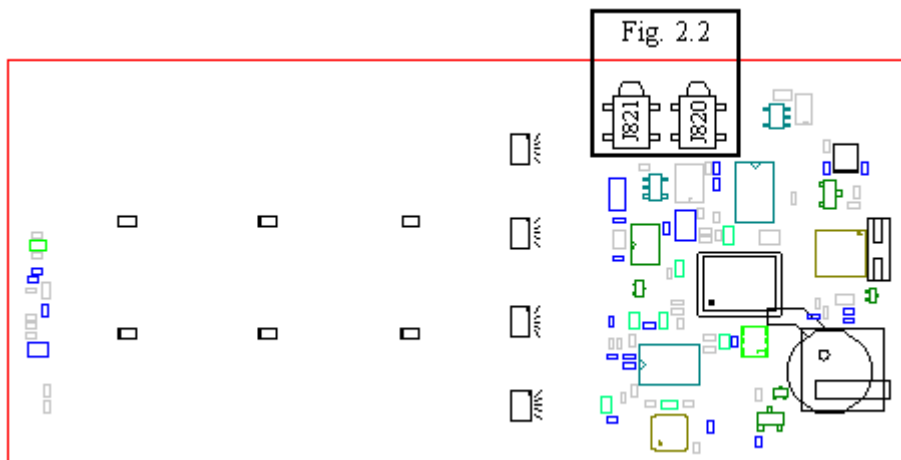
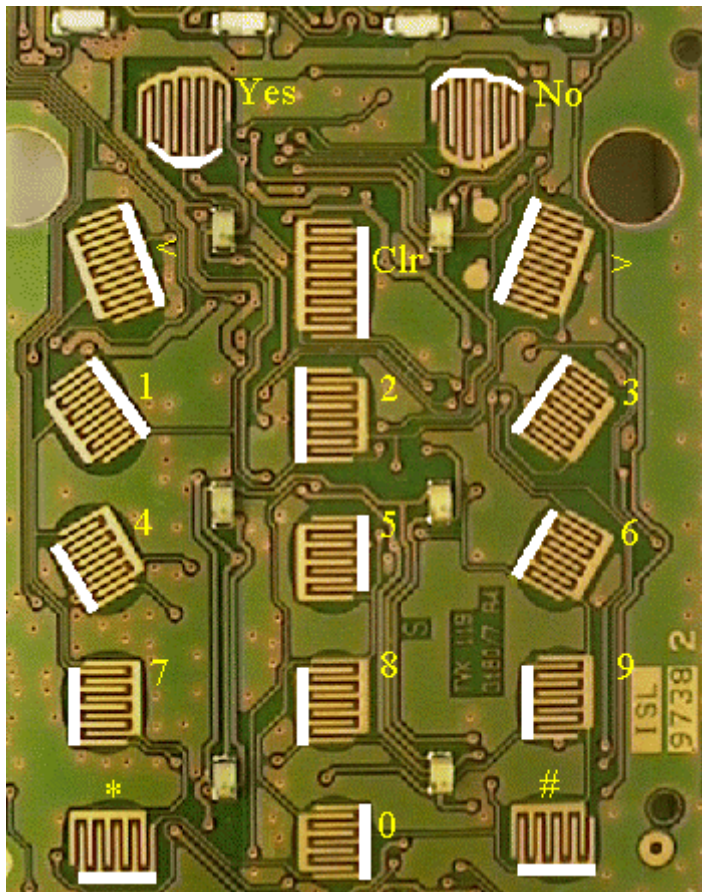

Fig. 2.1
Fig. 2.6
Open the phone and check for water damage, especially at the microswitches J820 and J821 (fig. 2.1).
- If the voltage is too low at one or more of the resistors, check the resistance of the corresponding resistor (all of them 100 kohms and class A). If the resistances are correct, check the solderings at D600 pads 120, 122-128 and 1. If the solderings are correct, replace D600 (class B, fig. 2.1).
If the voltages are correct at both sides of R630-R634 but the keyboard doesn't work, check the solderings at D600 pads 120, 122-128 and 1. If the solderings are correct, replace D600 (class B, fig. 2.1). If it doesn't help, remove the dome foil again. Check for voltage (~3.2V) at marked sides of the key pads in the row of the non-functional keys (fig. 2.6). Observe that there is VBATT voltage (~4.8V) at the marked side of the "No"-key. If the VBATT voltage at the "No" key is missing there's a foil damage and the phone is to be discarded.